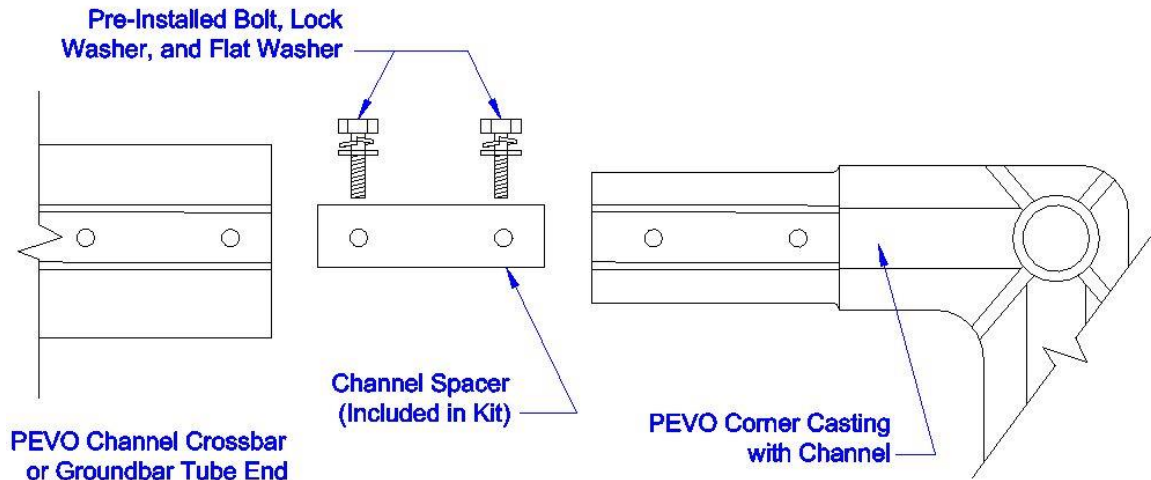

Figure 1. Crossbar/Ground Bar Tube and Channel Spacer with Corner Casting.
5. Install ends of Ground Bar onto Side Assembly stubs. (See Figure 1) On one side, install Lock Washer and Flat Washer onto Bolts and hand turn into threaded hole in casting using **finger pressure** to ensure proper threading.
6. Install Channel Spacers into ends of Crossbar and align holes. Install ends of Crossbar onto Side Assembly top corner stubs. (See Figure 1)